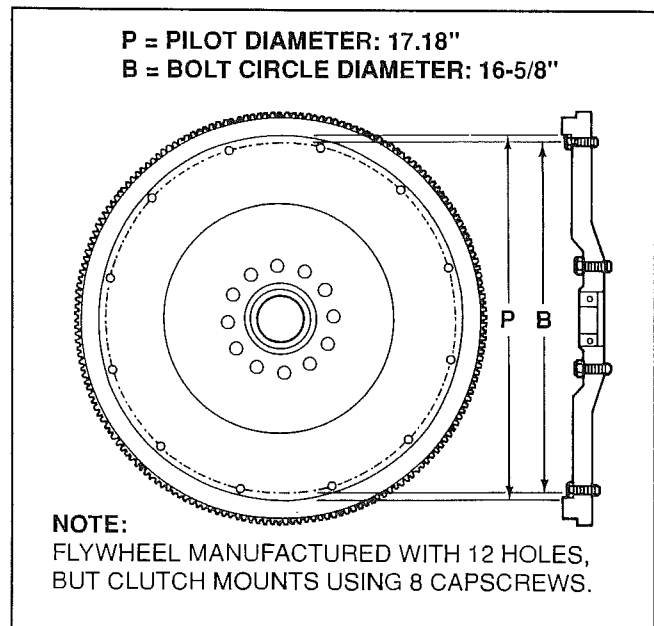

Figure 4-7. Measuring Points on Flywheel for 16-inch Clutch
- Measure bolt circle and pilot diameter (Fig. 4-7).